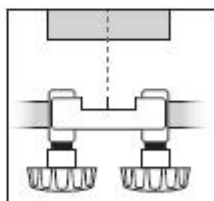

Fig 3
3. Secure the support arm mount (D) to the support arm in a vertical position and with it aligned centrally to the cutting face of the sharpening wheel. See Fig 3.